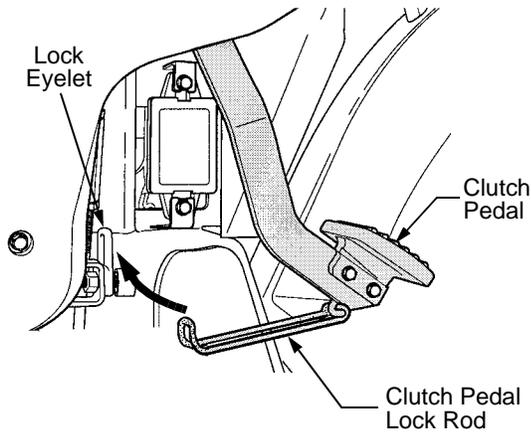

Figure 81
- Depress the clutch pedal and engage the clutch pedal lock rod in the lock eyelet. See Figure 81.